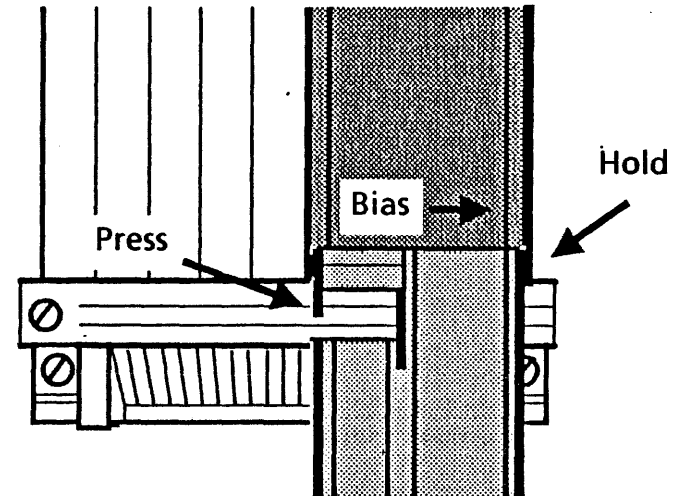

Figure 4-2 Rear Cover Removal
5. Remove the rear cover. (Figure 4-2)